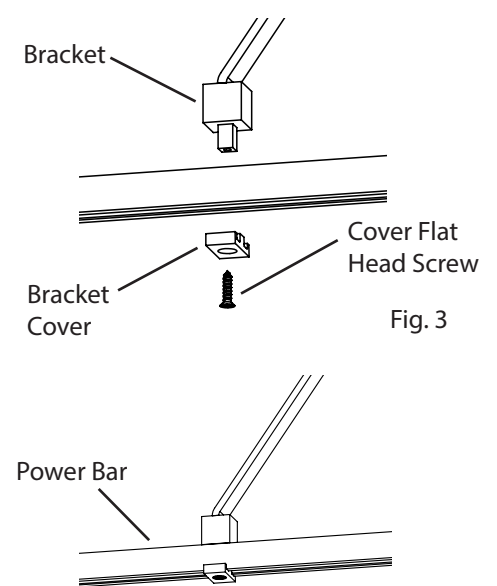

Fig. 3
4. Remove **Cover Flat Head Screw** and **Bracket Cover** and align **Power Bar** with the **Bracket** (Fig. 3).
2. Align **Power Bars** with **Hanger** (Fig. 2). Press down firmly on the top of the **Top Power Bar** and bottom of **Bottom Power Bar** until the Power Bars clicks into place. Reattach **Hanger Cap** with **Flat Head Screw** (Fig. 3).